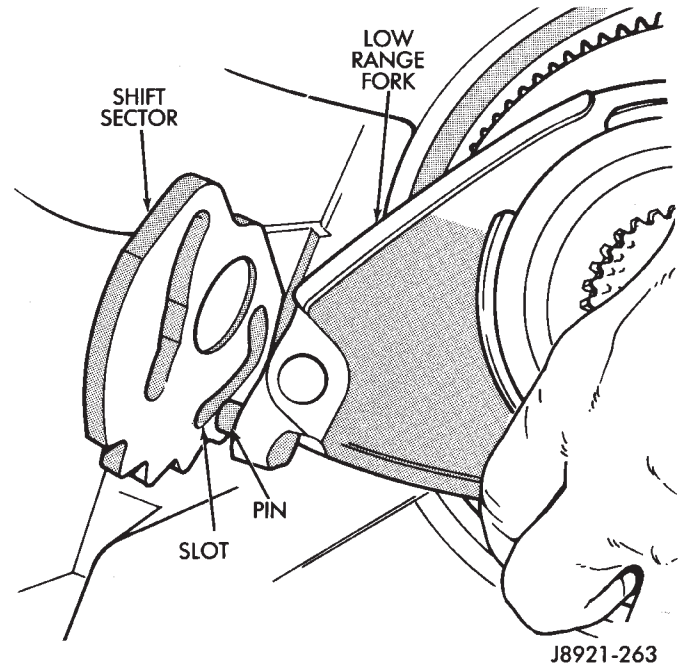

Fig. 37 Shift Sector Position
- (15) Remove shift sector (Fig. 37).